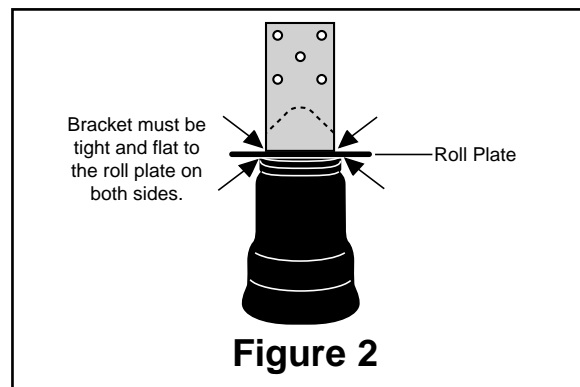

Figure 2
1. Jack up rear of vehicle or raise on hoist and remove rear wheels. Assemble the kit. Set roll plate over the thread post. Install the swivel air fitting and tighten finger tight plus two turns. This fitting is precoated with thread sealant. **Use a 7/16" open end wrench being careful to tighten on the metal hex nut only. DO NOT OVER TIGHTEN.** Now thread the upper sleeve mounting into the upper bracket until it is snug. The bracket must be tight and flat to the roll plate on both sides. Hand tight is sufficient (Figure 2).